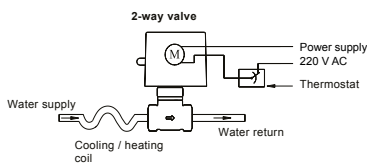

fig. 1
**2-way valves** normally closed: the flow direction is shown in the figure (the valve closes against the water flow, fig.1).